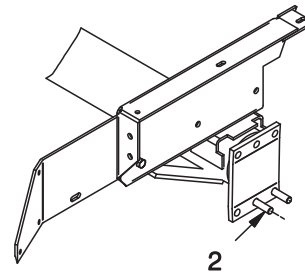

Figure 1 - Mounting Spacer
A. Place (2) Y18C-1032 Bolts through the axle as shown in Figure 1.